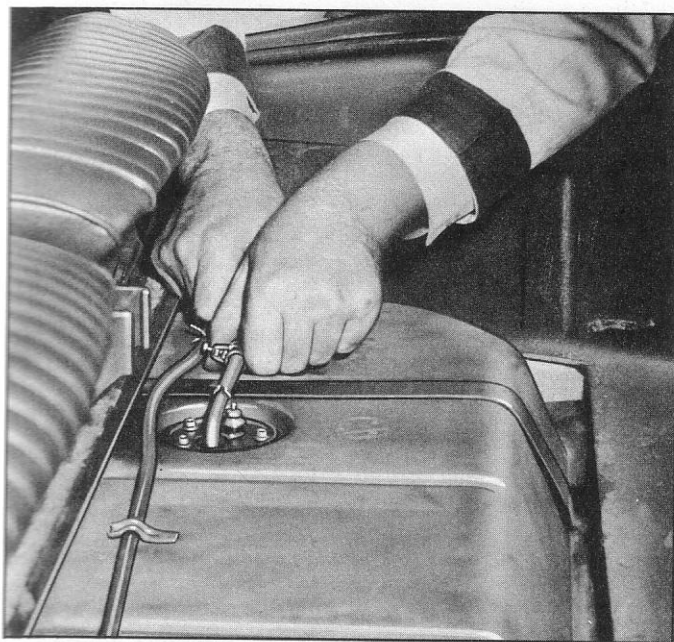

Fig. 6—Removing Fuel Tank Lines
5. Remove fuel tank metering unit wires and fuel lines (vent and fuel pickup) (fig. 6).